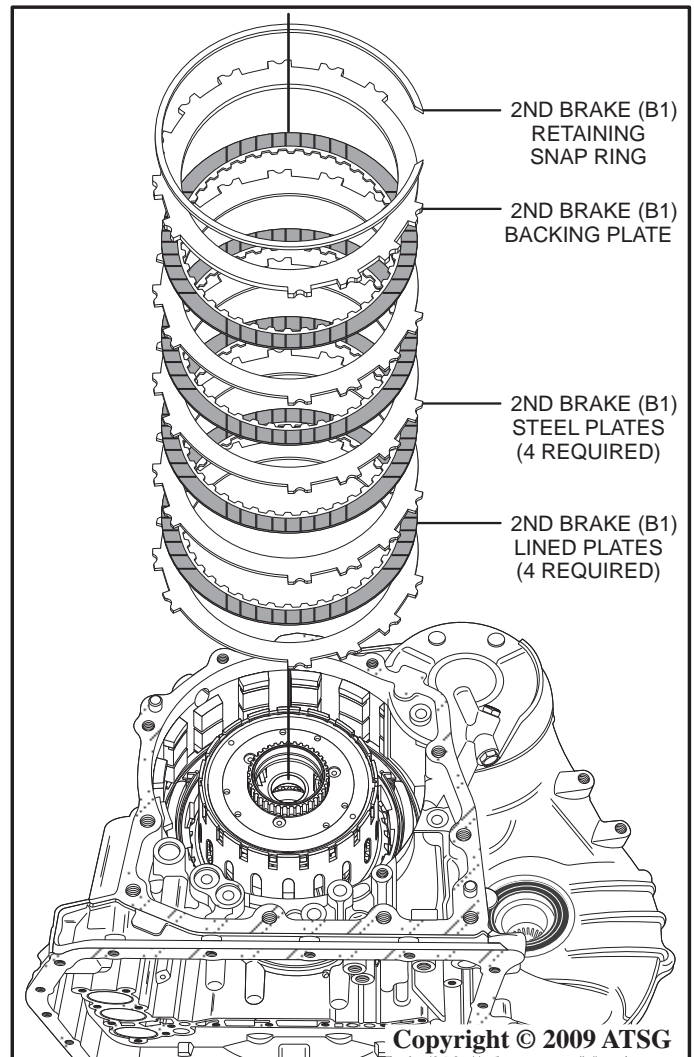

Figure 49
79. Using a screw driver, remove the 2nd brake (B1) retaining snap ring as shown in Figure 49.
80. Remove the 2nd brake (B1) steel and lined plates as shown in Figure 49.